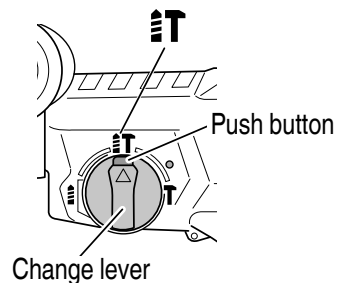

Fig. 14
- This rotary hammer can be set to rotation and hammering mode by pressing the push button and turning the change lever to the  mark (Fig. 14).